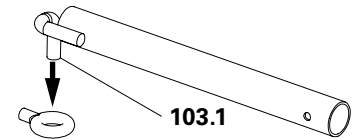
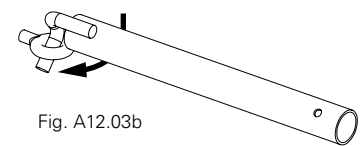

Fig. A12.03a
Fig. A12.03b
2. Turn the suspension hook (**103.1**) of the wall tie downwards and insert it into the ring bolt from above up to the stop. (Fig. A12.03a) Turn the wall tie clockwise so that the suspension hook is horizontal below the ring bolt. (Fig. A12.03b + Fig. A12.03c)